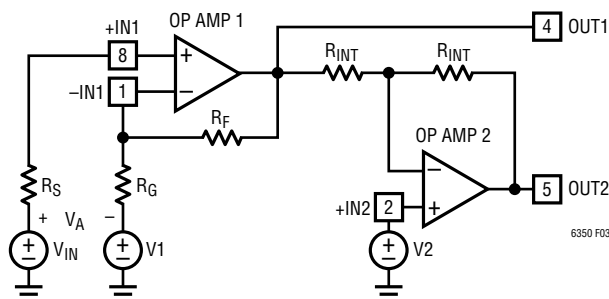

Figure 3. General Configuration
Because the input op amp presents its output and both its inputs to LT6350 pins, alternative configurations are possible. Consider the general configuration shown in Figure 3.
The simple connection described in the Basic Connections section can be seen as a special case of the general circuit in Figure 3 where R_F is a short circuit, R_G is an open circuit, and the voltage at V_{IN} is centered around the voltage V_2 . If differential gain greater than two is needed, the values of R_F and R_G can be adjusted in accordance with Equation (2). Additional information about feedback networks is given in the next section and in the Input Amplifier (Op Amp 1) Feedback Components section.
Although the previous examples have assumed the input signal is applied at +IN1, it is also possible to use the input op amp in an inverting configuration by fixing the voltage V_{IN} and applying the input signal at V_1 of Figure 3. Using the input op amp in the inverting configuration fixes its input common mode voltage at the voltage V_{IN} , which allows the input signal at V_1 to traverse a swing beyond the LT6350 supply rails. To avoid unwanted differential offsets in this configuration V_{IN} should be chosen such that:
When feedback resistors are used to set gain in op amp 1, care should be taken to ensure that the pole formed by the feedback resistors and the total capacitance at the inverting input, -IN1, does not degrade stability. For instance, to set the LT6350 in a differential gain of +4, R_F and R_G of Figure 3 could be set to $1k\Omega$. If the total capacitance at -IN1 (LT6350 plus PC board) were $3pF$, a new pole would be formed in the loop response at $106MHz$, which could lead to ringing in the step response. A capacitor connected across the feedback resistor and having the same value